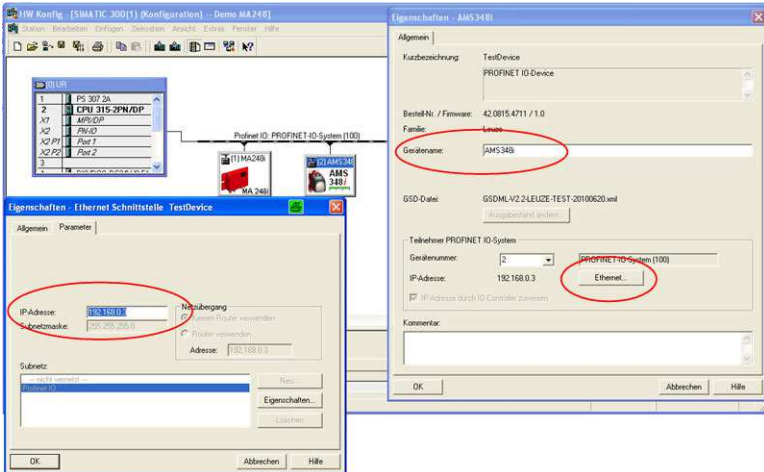

Figure 9.6: Assign unique device name in the properties window
- Assigning the device names to the configured IO devices(see figure 9.6)